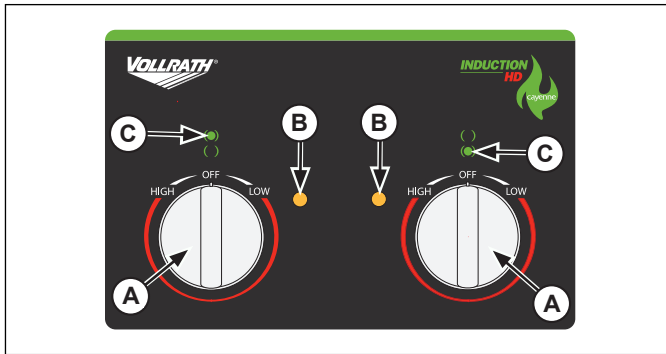

Figure 1. Manual Model Control Panel
- (A)** CONTROL KNOB. Controls the amount of heat transferred to the induction ready cookware.
- (B)** INDICATOR LED light. Illuminates steady when an induction ready pan is on the hob and the control knob is between the “low” to “high” range. Blinks 1 time per second when no pan or a non induction ready pan is on the hob.
- (C)** HOB LOCATION. Shows which hob the control is operating.
- (D)** KNOB GUARD (not shown). Helps protect the control knob from damage.
1. Rotate the control knob (A) to the desired setting. See Figure 1. The indicator led light (B) will illuminate steady when an induction ready pan is on the hob and the control knob is set between the “low” to “high” range. The indicator led light (B) blinks when no pan or a non induction ready pan is on the hob and the control knob is set between the “low” to “high” range.